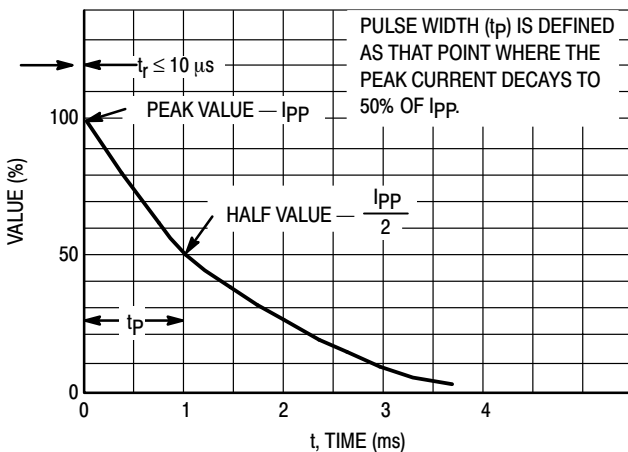

Figure 5. Pulse Waveform
- Peak Power – 40 W @ 1.0 ms (Bidirectional), per Figure 5 Waveform
- Nonrepetitive current pulse per Figure 5 and derate above $T_A = 25^\circ\text{C}$ per Figure 6.
- Surge current waveform per Figure 5 and derate per Figure 6